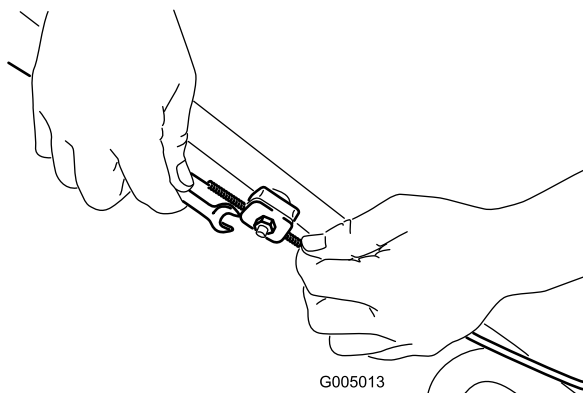

Figure 28
1. Loosen the cable support nut (Figure 28).